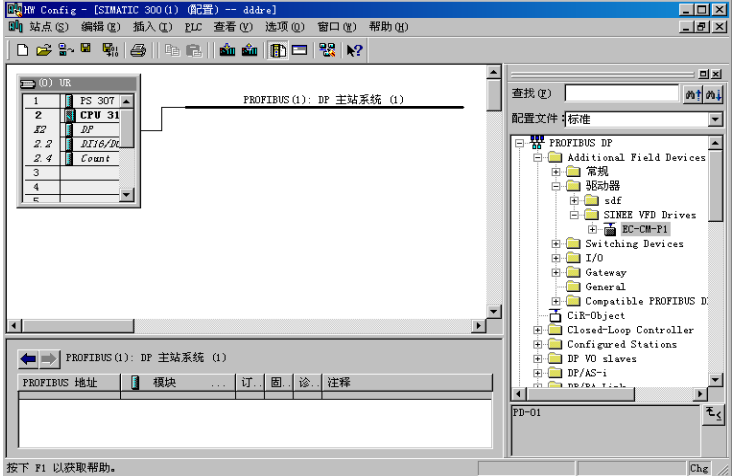

Figure 7-12
9. As shown in Figure 7-12 , select the PROFIBUS DP bus and double-click the